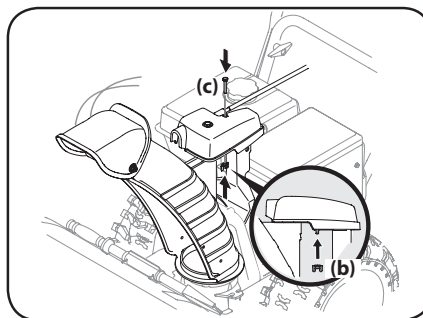

Figure 2-39
4. Finish securing chute control head by installing hex screw (c) and wing nut (b) removed in Step 1. See Figure 2-39.